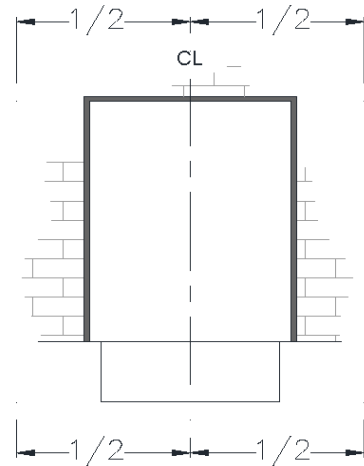

Figure 1
1) Determine Centerline of Door Opening (See Figure 1).